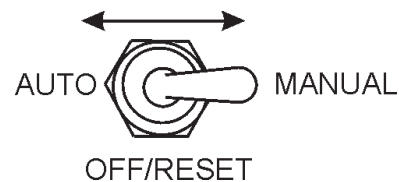

Figure 66. Auto-Off/Reset-Manual Switch
24. Place the Auto-Off/Reset-Manual switch in the “**MANUAL**” position to start the engine (Figure 66). Once the engine starts, let the engine run for 1-2 minutes. Listen for any abnormal noises.